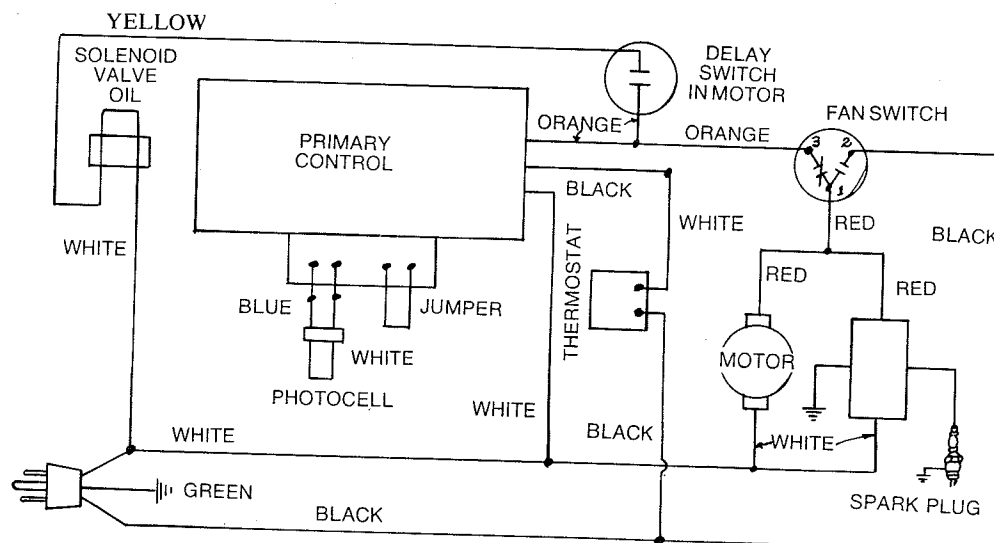

Figure 1. Wiring Diagram
The following is a description of the normal automatic operating sequence of the heater (See the Wiring Diagram, Fig. 1
Test fire the heater to make sure it will function properly. If it does not, check all wiring connections according to the wiring diagram, Figure 1.
7. After replacing control system components, test fire the heater to make sure it will function properly. If it does not, check all wiring connections according to the wiring diagram, Figure 1. Repeat the testing procedure if necessary.
Improperly wired after servicing.	Check wiring according to Wiring Diagram, Figure 1.